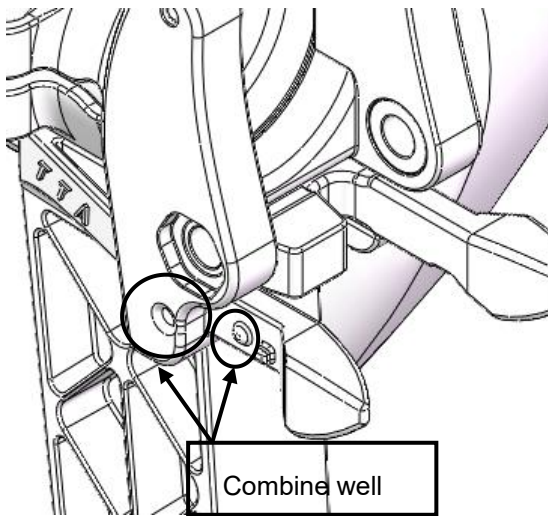

Figure 5
- 4) Slip the landing gear gently into the groove as Figure5. Gently hit the landing gear to make its raise position slip into the locating hole of groove wall.